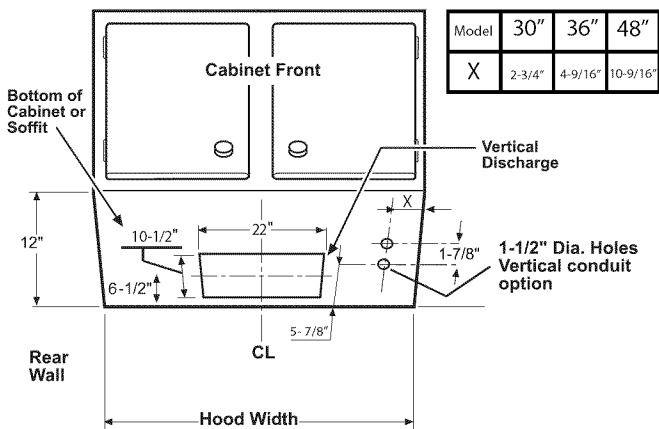

Figure 1
1. Prepare duct and conduit cut outs, see figures 1 and 2 as needed.